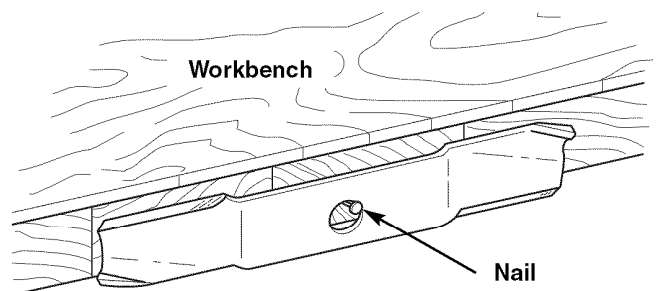

Figure 26. Balancing the Blade
6. Balance the blade as shown in Figure 26. Center the blade's hole on a nail lubricated with a drop of oil. A balanced blade will remain level. If the blade is not balanced, continue to sharpen the heavy side until it balances.